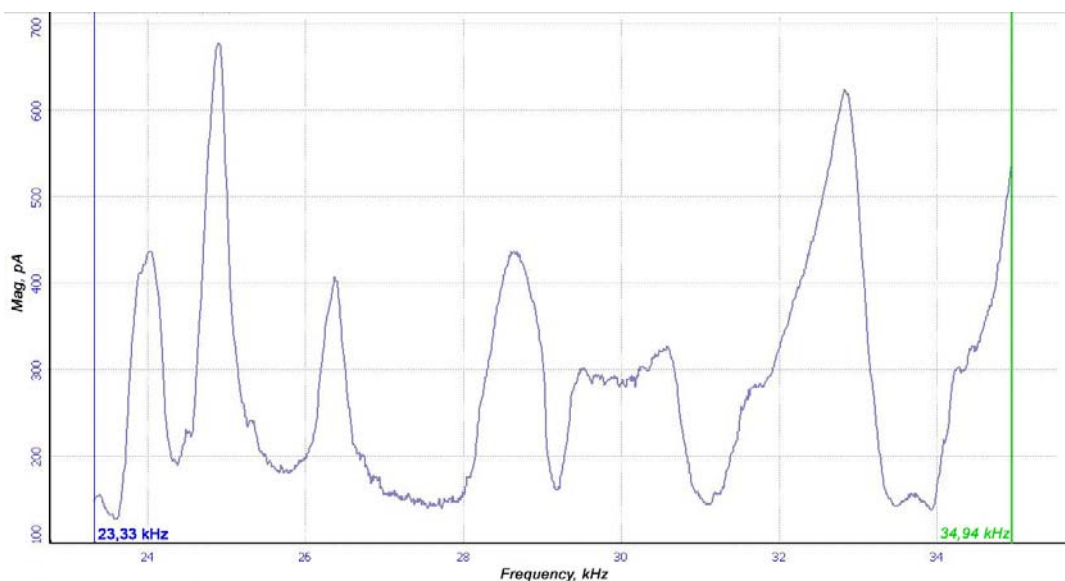

Fig. 3-15. Resonance curve for the cantilever propped to the sample surface
14. Click **Run** button to repeat the resonance curve plotting procedure for the same range but with the feedback on. (Fig. 3-15).